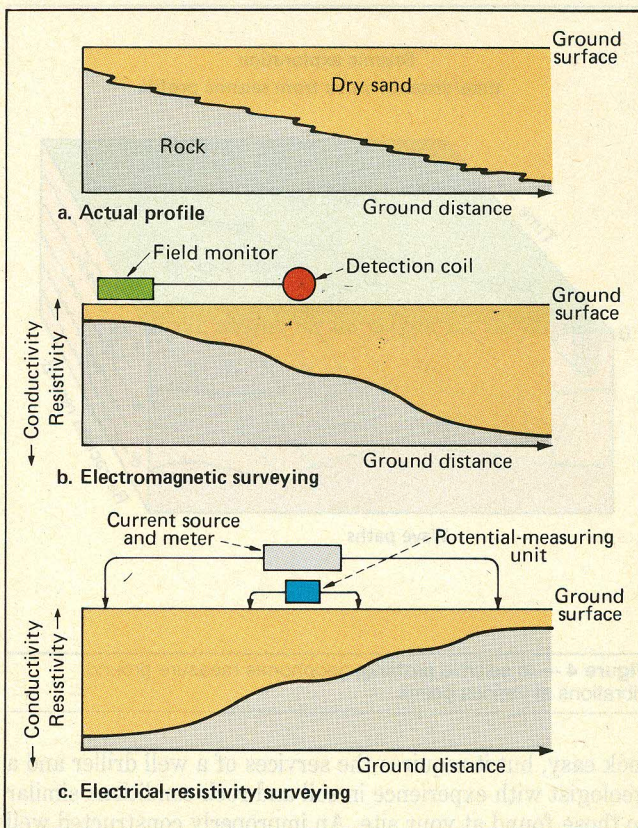

Figure 3 — Electromagnetic and electrical-resistivity surveys provide mirror-image profiles
Both of these techniques (see Fig. 3) measure the electrical properties of soil. Electromagnetic (EM) equipment assesses relative conductivity via an induced electromagnetic field. Because an EM unit does not require direct contact with the ground, it can generate subsurface profiles very quickly.